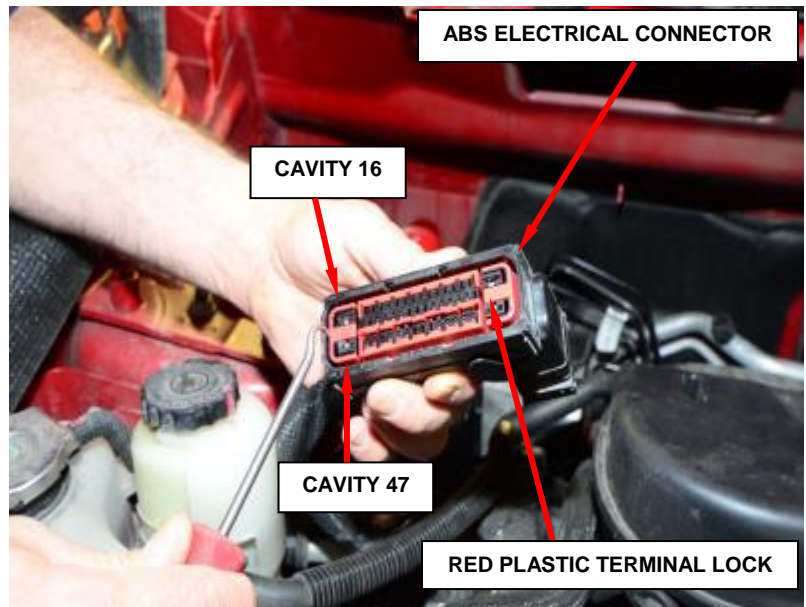

Figure 11 - ABS Electrical Connector
1. Release the wire harness clips from the frame rail and pull the ABS electrical connector up to gain access for ground terminal removal (Figure 11).
3. Remove and save the red ABS electrical connector plastic terminal lock (Figure 11).
18. Install the ABS electrical connector red plastic terminal lock (Figure 11).